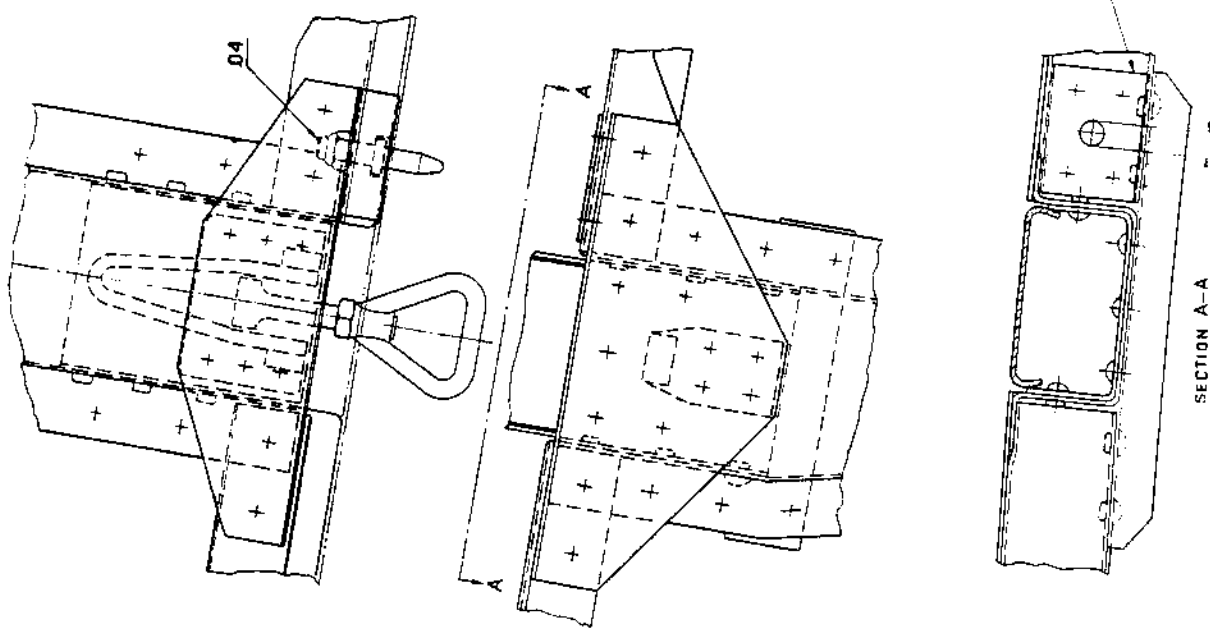

FIG 2
Remove the screw in the bakelite block behind the forward lock. Fit the locating pin item 04 and rivet sheet item 05 according figure 2. Mount the engine cowling and mark the position of the locating pin. Remove the upper panels and drill ϕ 8 in the lower panel for the locating pin.